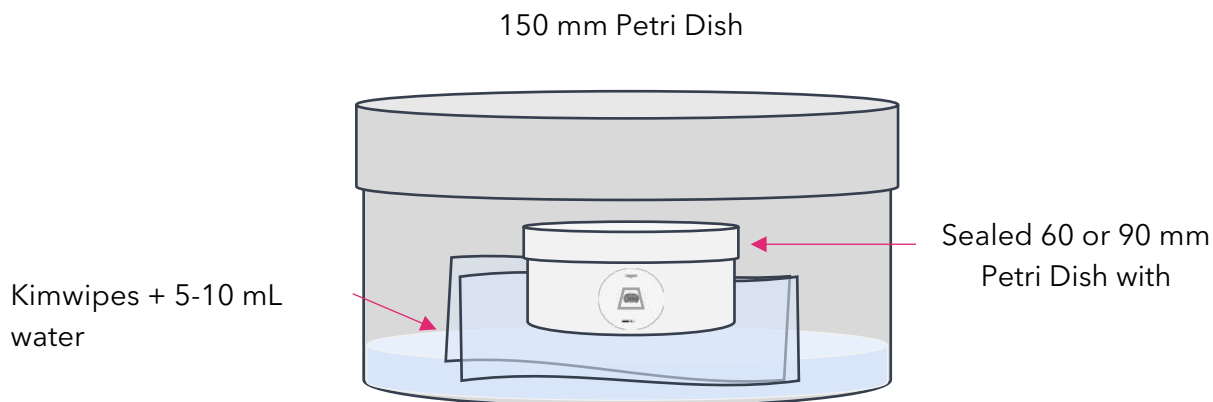

Figure 7. Humidified chamber inside a 150mm petri dish.
9. In a 150-mm large petri dish, place 1-2 Kimwipes in the dish with 5-10 mL of nuclease-free water. This creates a humidified chamber to ensure sample does not dry out (Figure 7)